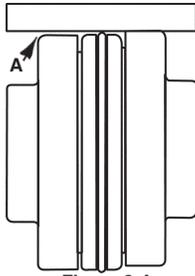

Figure 2-4
To check the PARALLEL alignment: (Refer to Figure 2-4)
2. Measure the maximum offset (A), Figure 2-4, at various points around the periphery of the coupling. DO NOT rotate the coupling.